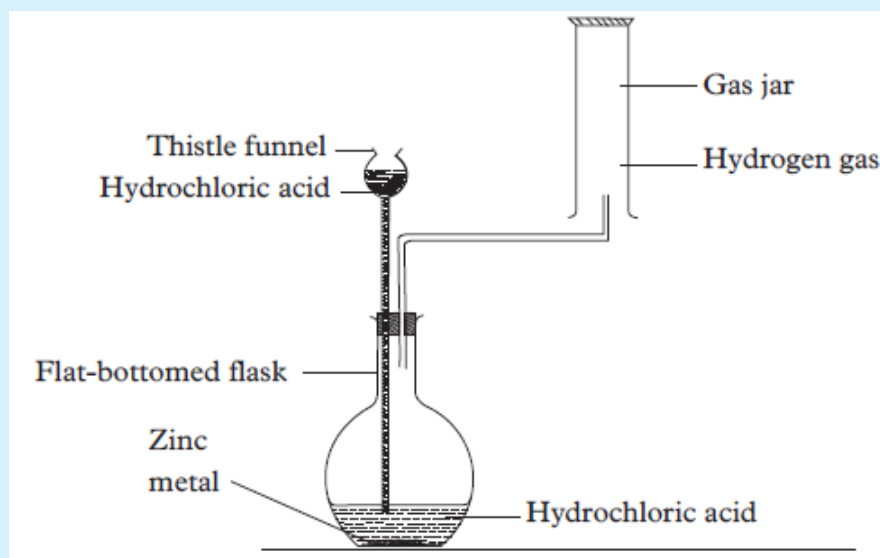

Fig 4.3.1.(a): Reaction between zinc and hydrochloric acid
1. Put some pieces of zinc metal in a flat-bottomed flask and set up the apparatus as shown in figure 4.3.1 (a) Add 5 cm³ of dilute hydrochloric acid and test for any gas evolved using a burning splint.